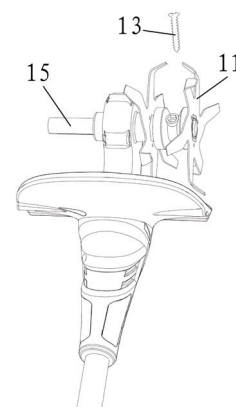

Fig.3
3. Insert the hex socket screw 13 into holes C and B, and tighten the hex socket screw 13 using a hex socket wrench. (Fig3)